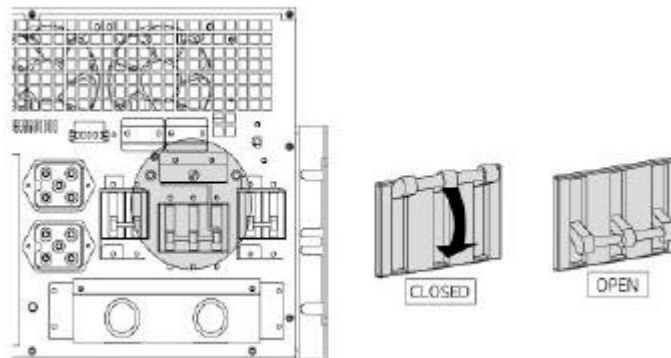

FIG 58 – 10KVA MAINTENANCE BYPASS SWITCH TO UPS
7. For the 10kVA switch the Maintenance Bypass Switch to UPS position and secure the bypass lock plate (FIG 58).